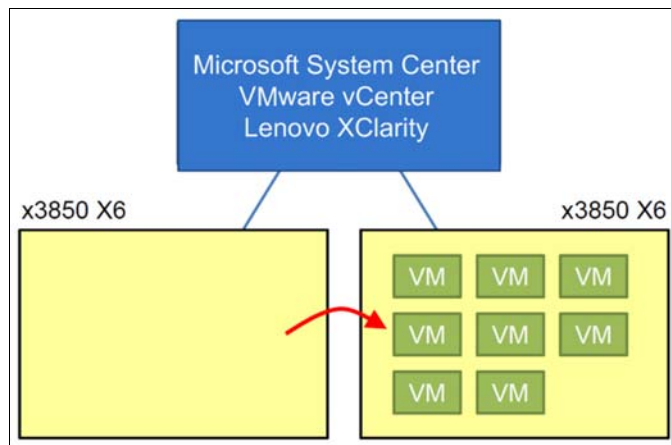

Figure 7-25 Workload resumes on a different server
2. The server is emptied and the workload resumes on a different server, as shown in Figure 7-25.